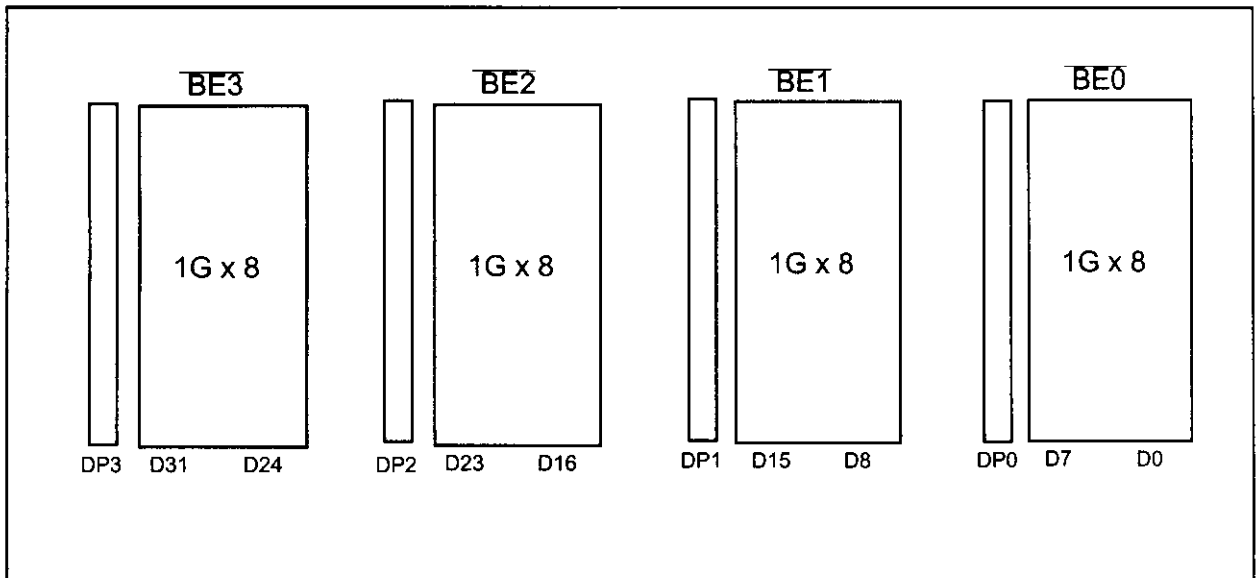

Figure 23-1. 486 Memory Organization with DP0 - DP3
Another major addition to the 486 is the use of 4 pins for data parity (DP), which allows implementation of parity error checking on the system board. The four pins DP0, DP1, DP2, and DP3 are bidirectional, and each is used for 1 byte of the D31 - D0 data bus. When the 486 writes data it also provides the even-parity bit for each byte through the DP0 - DP3 pins. When it reads the data it expects to receive the even parity bit for each byte on the DP0 - DP3 pins. After comparing them internally, if there is a difference between the data written and the data read, it activates the pin PCHK (parity check) to indicate the error. This means that PCHK is an output pin while DP0 - DP3 are bidirectional I/O. It must be noted that inconsistency between data written and data read has no effect on the execution of code by the CPU. It is the responsibility of the system designer to incorporate error detection by using the PCHK pin in their design. In the above discussion of parity, the word *data* is meant to refer to both code and data. Figure 23-1 shows the memory organization of the 486.